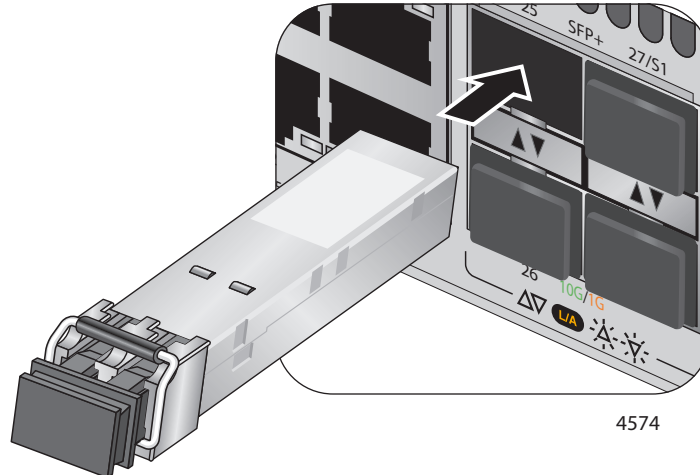

Figure 45. Installing an SFP Transceiver
4. If you are installing the transceiver in a top slot, position the transceiver with the Allied Telesis label facing up. If you are installing the transceiver in a bottom slot, position the transceiver with the label facing down. Refer to Figure 45.